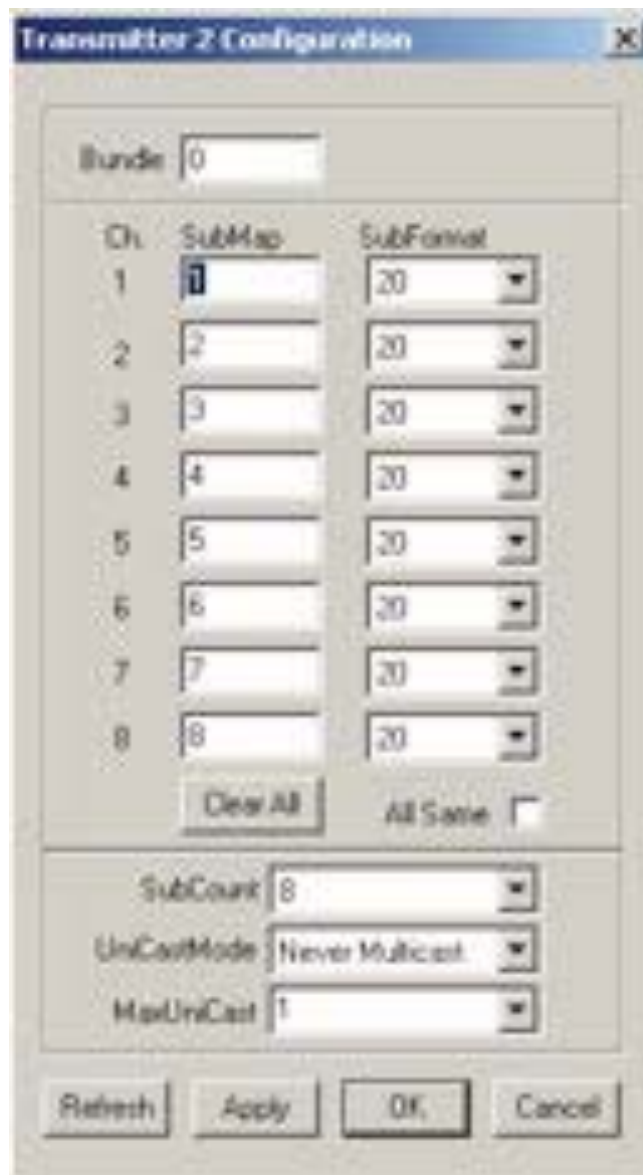

Figure 5-2: CobraNet™ Transmitter settings page
- Transmitter setup: This section covers the CobraNet™ transmitters (see Figure 5-2). The CS496112 chipset allows for up to 4 transmitters, each of up to 8 channels, subject to an overall channel count of 2 analog input channels and 8 network audio streaming channels. The settings are:-